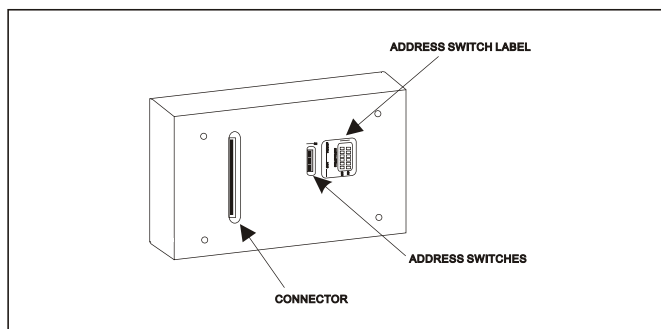

Figure 4. ETM address switches on the back of the ETM
- ETM address switches located on the back of the ETM (see Figure 4)
The ETM's address switches (Figure 4) must be set accurately for it to communicate with the appropriate rooftop unit and executive module.